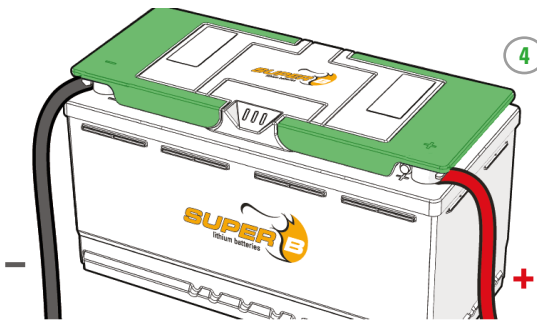

Figure 8. Place the handle covers over the terminals
4. Place the handle covers over the terminals. (Figure 8)